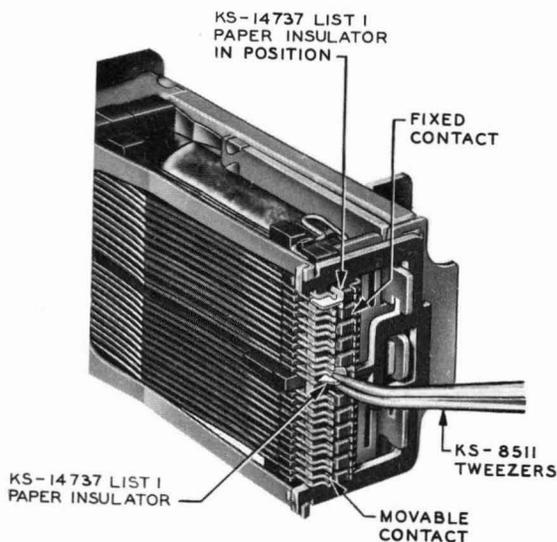

Fig. 22—Insulating Contacts of Wire-spring-type Relays (AJ Type Illustrated)
4.03 **Insulating Contacts of AF-, AG-, and AJ-type Relays (Wire Spring Types):** Fig. 22.
- (1) Use the KS-14737, List 1 paper insulator, as covered in (3). The procedures for insulating normally open or normally closed contacts are the same, except in the case of normally closed contacts, block the relay operated as covered in 3.07. Remove the blocking tool after the insulator has been positioned between the contacts.
- (2) The KS-14737, List 1 paper insulator is a small bond paper insulator folded down the middle with two ears folded out at one end. When the main folds are held together, the insulator assumes the shape of a Y. In order to avoid contaminating these insulators, they should be kept in their container until required for use.
(3) To insulate a contact, first remove the contact cover from the relay. Remove an insulator from the container with the KS-8511 tweezers, taking care not to damage or soil the insulator. Hold the insulator with the tweezers from the side opposite the center fold with the tip of the tweezers approximately at the center of the insulator. Check that the ears are in a position so that the insulator is in the form of a Y, and if necessary, bend the ears to this shape. Place the ears of the insulator against the fixed contact at an angle of approximately 45 degrees to the movable contacts, as shown in Fig. 22. Position the insulator so that the main folds are between the twin movable contacts with the ears against the fixed contact. After the insulator has been partially inserted in this way, push it back against the card with the side of the tweezers. Remount the contact cover.
(4) To remove an insulator, first remove the contact cover. Then remove the insulator with the tweezers, manually operating the relay if the insulator is between break contacts. Remount the cover.